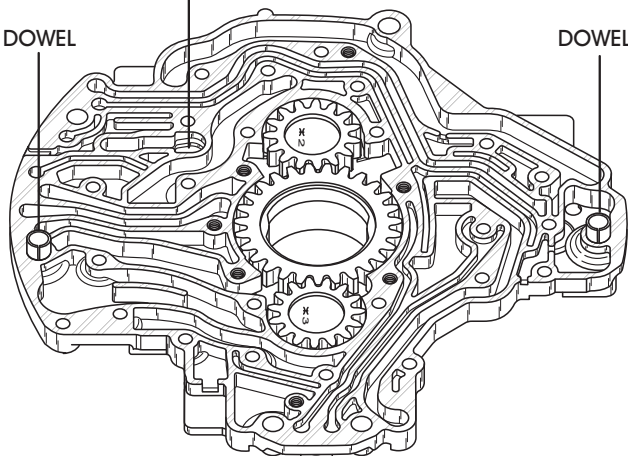

Figure 91
11. Ensure that the shuttle valve is installed into the proper cavity in the oil pump body, and that the dowels are installed as shown in Figure 91.